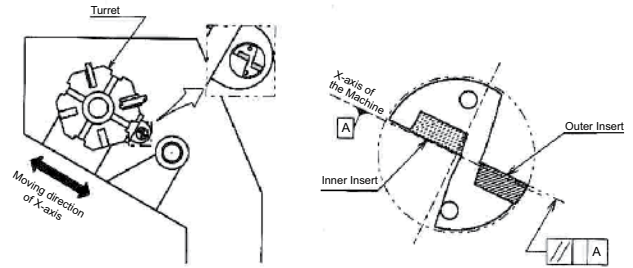
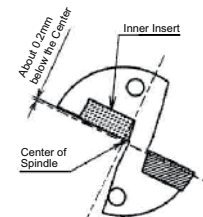

Fig.1 Installed to the Lathe
Fig.5 Front View of the Drill
- Adjust the scale at the flange periphery of the sleeve to the center of the coolant plug of the drill. (Fig.1)
- ① The top face of the outer insert should be parallel to the X-axis to allow for offset cutting.
- ② It is recommended to set the outer insert as shown in Fig.1 with the outer insert facing the operator.
When installing inner insert as shown in Fig.1, it will be set around 0.2mm below the Center of Spindle. (Fig.5)